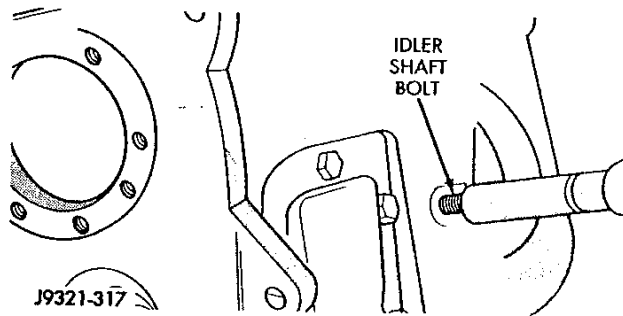

Fig. 55 Idler Shaft Bolt Installation
(7) Install idler shaft bolt (Fig. 55). Tighten bolt to 54 N•m (40 ft. lbs.) torque.